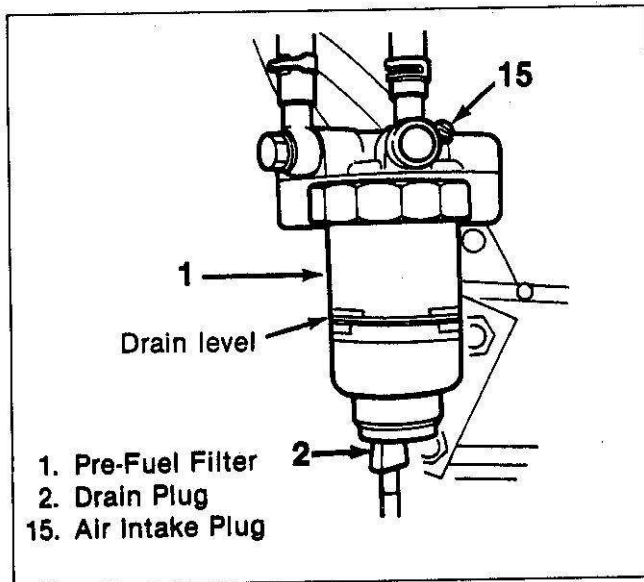
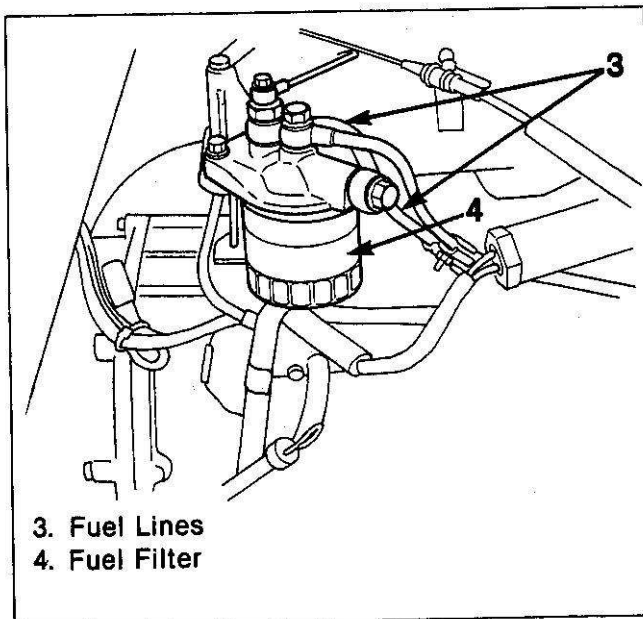

Figure 6. Pre-Fuel Filter
Figure 7. Fuel Filter
The purpose of the fuel filters is to clean the fuel of any dirt particles that can cause wear on the fuel injection nozzle's sliding surface; and to separate any water from the fuel, which is ever-present from the condensation in the fuel tank. The pre-fuel filter (water separator) is located between the fuel tank and the injection pump (figure 6). The secondary fuel filter is located between the fuel pump and the injection pump (figure 7).
1. Loosen the air intake plug (15) and drain plug (2) by turning them counterclockwise (figures 6 and 8).
Remove or Disconnect (Figures 7 and 9)
Install or Connect (Figures 7 and 9)